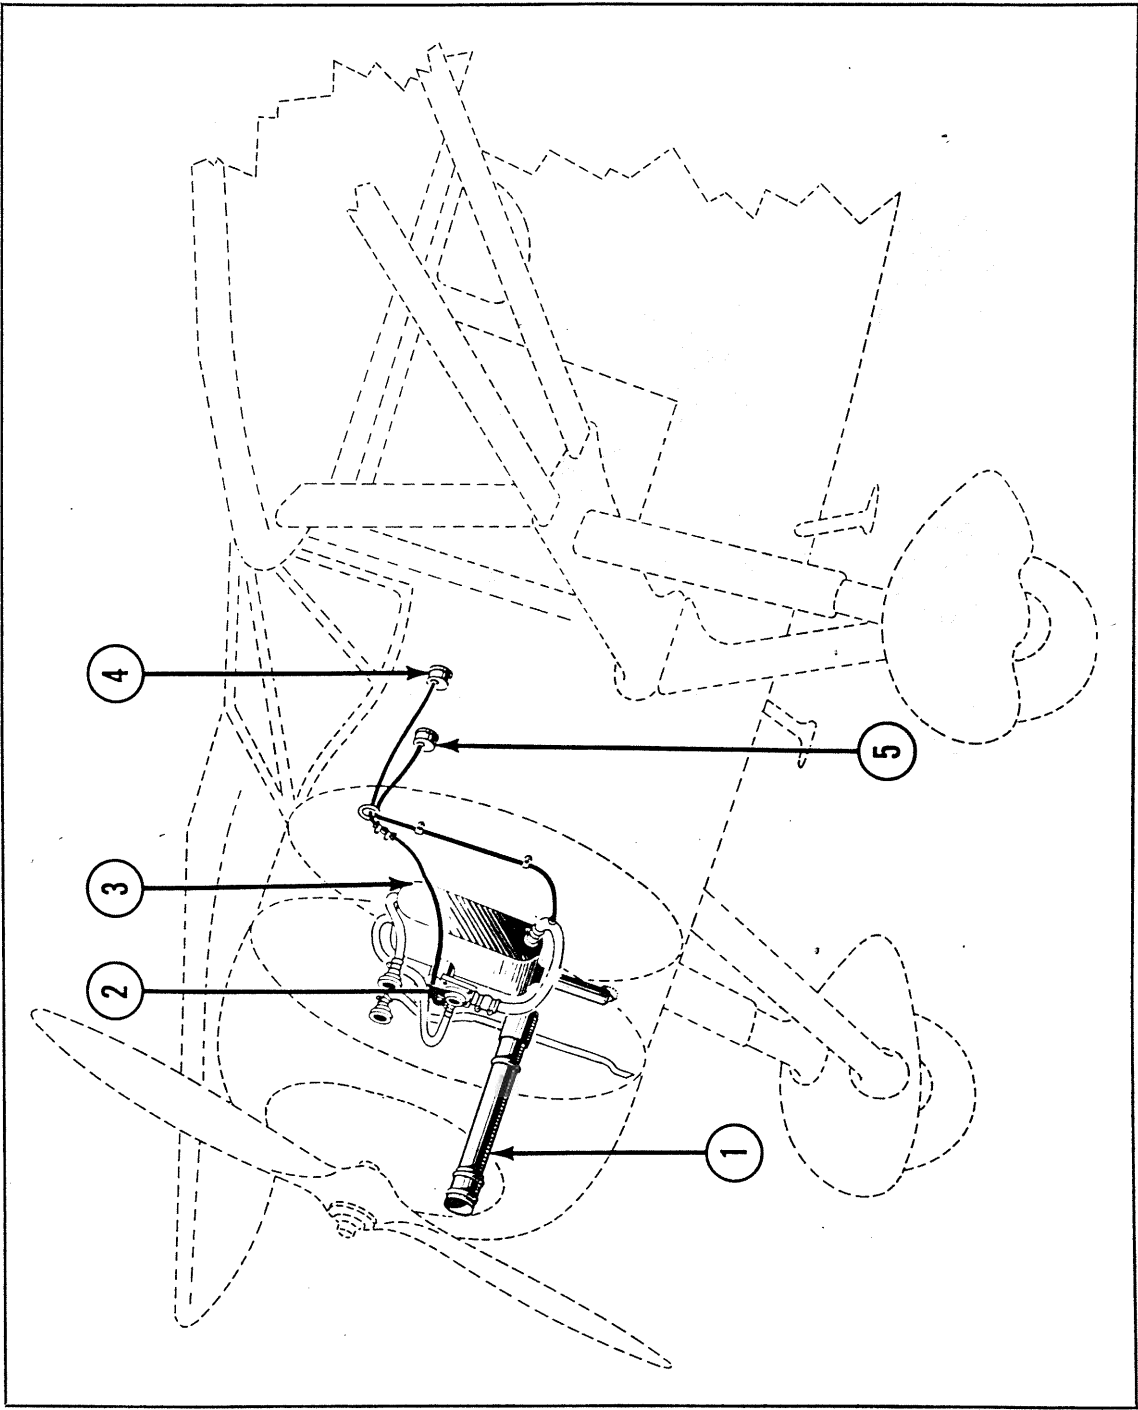

Figure 1-7—Warner Oil System
3. OIL SYSTEM. (See figures 1-7 and 1-8.) Both engines are of the dry sump type and the oil is carried in a tank mounted on the engine mount for the Ranger model and on the firewall for the Warner model. Oil capacities for both models is 4.1 gallons plus expansion space. The 24W46 and 24R46 can be operated under normal temperature conditions with SAE grade 50 oil. In temperatures below 20° F with SAE grade 40; in warm temperatures SAE grade 60 should be used.